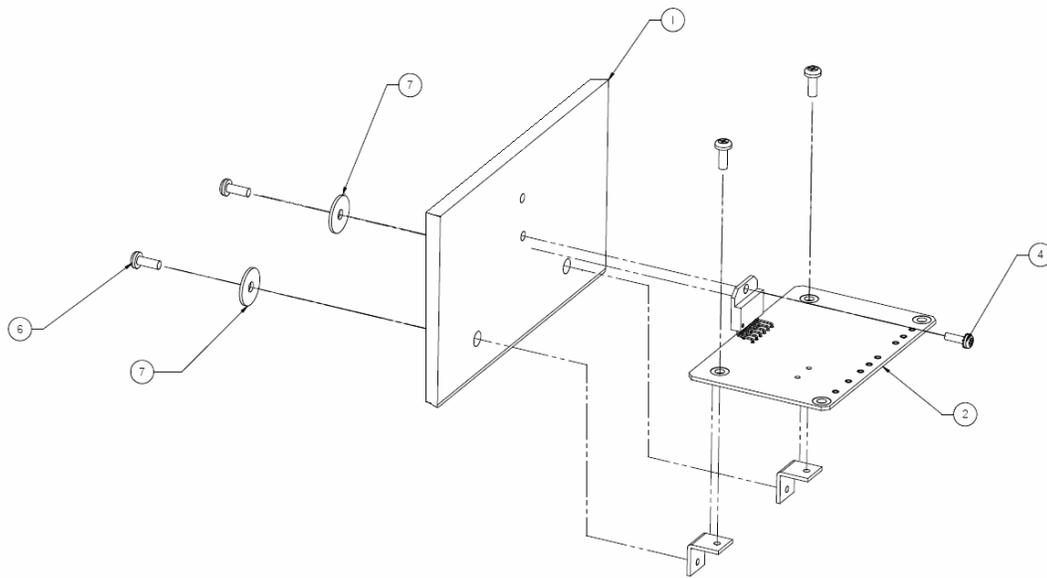

Figure 14-Assembling the circuit board to the heat sink
You'll use the heat sink and hardware to accurately locate the LM3886 on the board. These steps refer to Figure 14.
2. Set the LM3886 into the board, but don't solder it in place. Temporarily complete the mechanical assembly as shown in Figure 14 using the following hardware:
- a. 4-40 screw (callout 4 in Figure 14). No nut is needed owing to the tapped hole in the super heat sink.
- b. Qty 2 of #6 fender washers, and Qty 2 of #6-32x5/8" pan-head screws with captive lock-washers(callouts 6 and 7 in Figure 14).
2. Now that the LM3886 is completely soldered in place and thermal compound is applied, assemble the LM3886 and circuit board to the heat-sink plate as you did once previously, as shown in Figure 14: